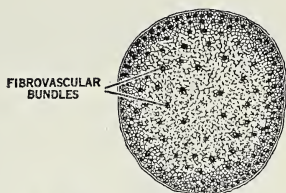

Fig. 357. Cross section of a corn stem.
**A cornstalk.** Let us examine a cross section of a cornstalk. The first thing we observe is the outside layer, which is called the *rind*. The rind acts as a protection to the inner parts of the stem and gives strength. Inside the rind we find pith with little specks scattered through it (Fig. 357).